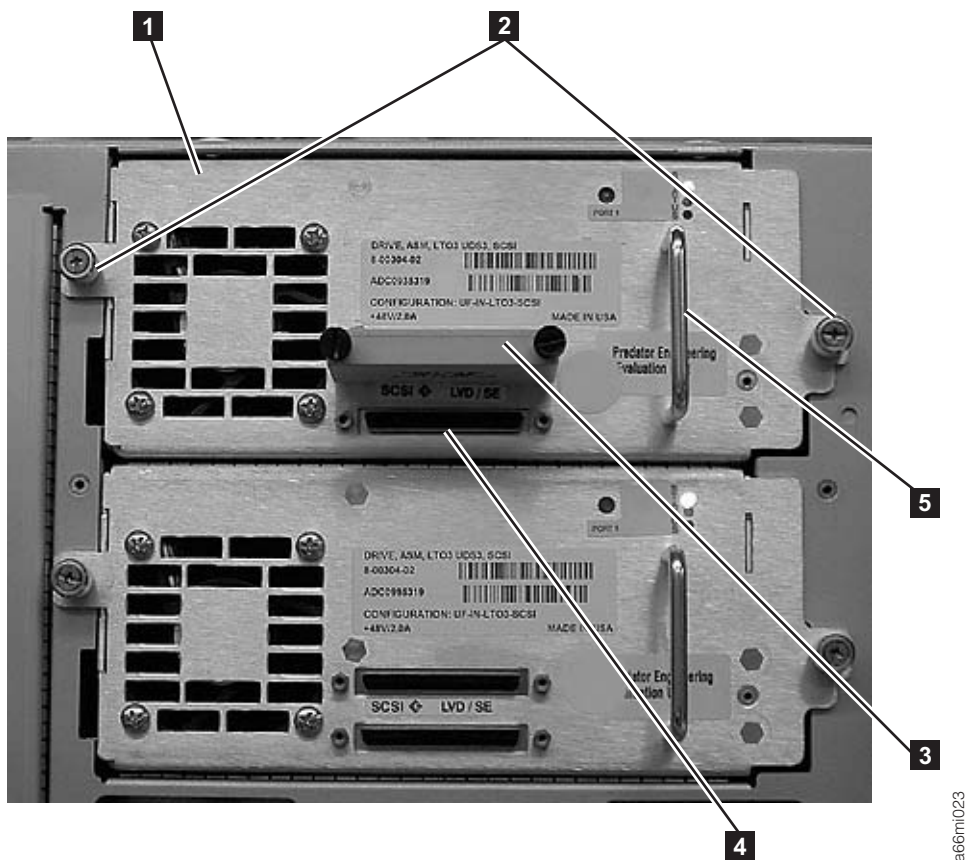

Figure 4-32. Tape drive (detail)
2. Grasp the handle (**5** in Figure 4-32) and slowly slide the drive sled into the drive slot, while the drive sled is supported from underneath.
3. Tighten the two thumb screws (**2** in Figure 4-32) that hold the drive sled in place by turning them clockwise.